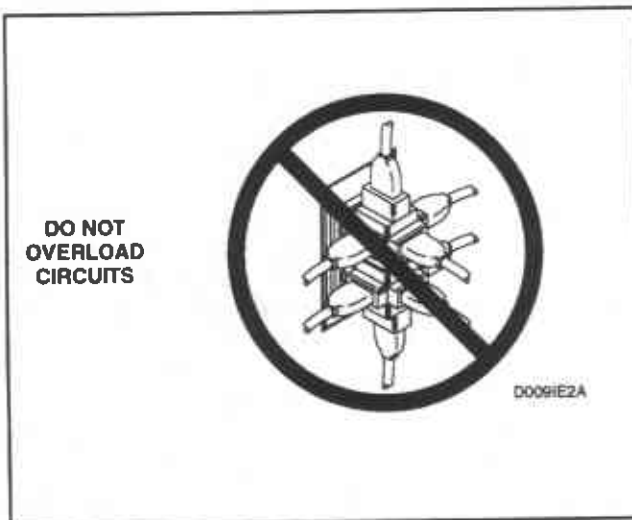

Figure 60
- DO NOT OPERATE OTHER APPLIANCES ON THE SAME CIRCUIT. DO NOT OVERLOAD CIRCUITS! See Figure 60.